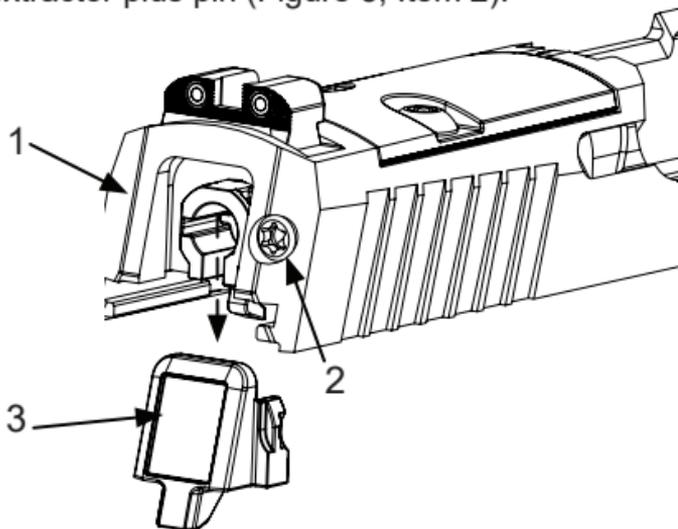

Figure 3. Rear Slide Cap Removal.
3. Pull rear cap (Figure 3, Item 3) out of slide (Figure 3, Item 1) while slightly pressing extractor plus pin (Figure 3, Item 2).